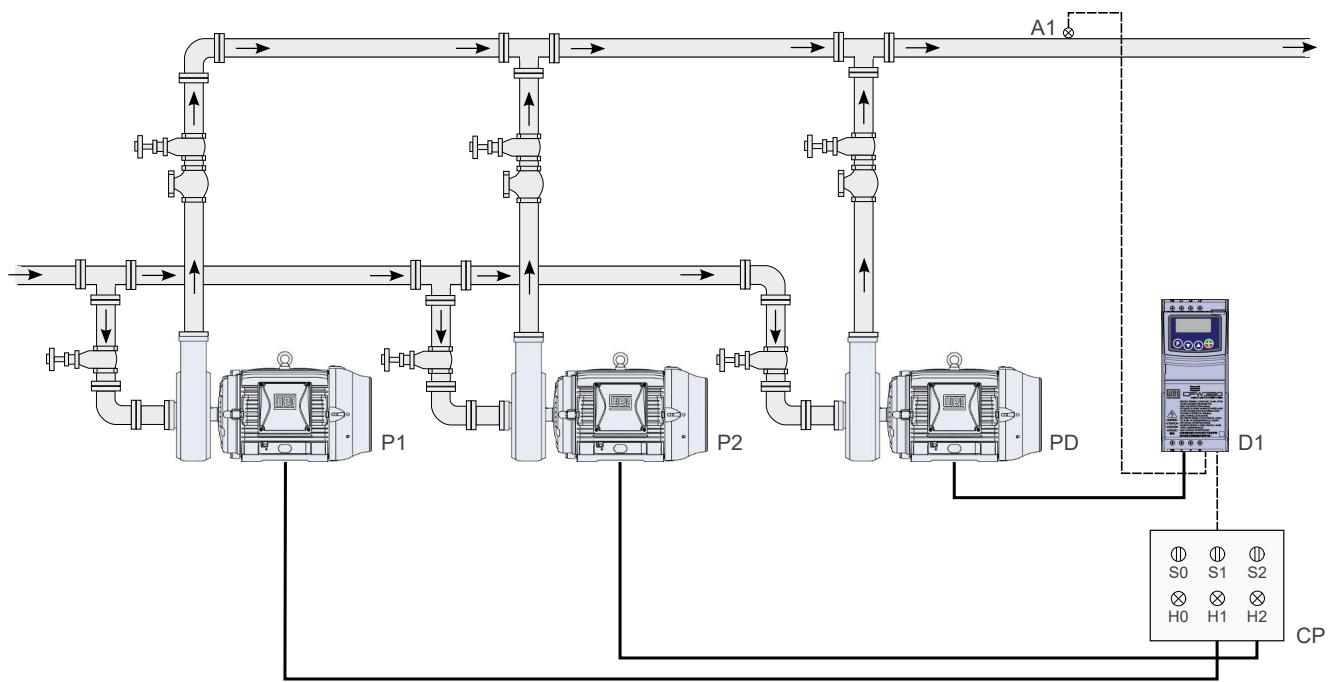
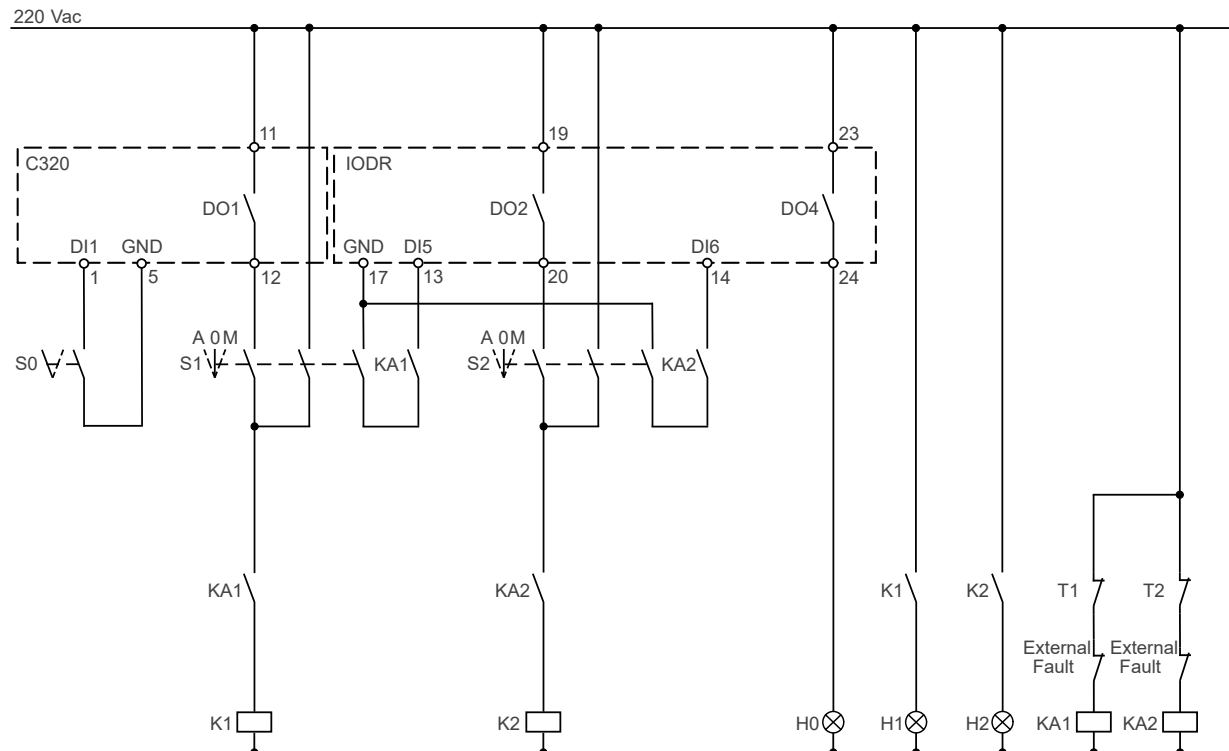

Figure 4.11: Pump Genius Multipump application with fixed control and control setpoint via HMI
Figure 4.14: Command connections of the Pump Genius Multipump application with fixed control and three pumps in parallel
The Figure 4.11 at page 4-12 presents a typical system with three pumps in parallel and control setpoint via HMI, basically composed of:
Pumps 1 and 2 can be driven by contactors (direct on line or star delta), static starters (softstarter), smart relays, etc. The H0, H1 and H2 signals are not necessary for the operation of the Pump Genius Multipump with fixed control, as they only serve to indicate the operating condition of the pumps in the control panel (CP). In Figure 4.11 at page 4-12, the H1 and H2 signals come from auxiliary contacts of contactors K1 and K2 that drive pumps 1 and 2 as shown in Figure 4.14 at page 4-15.
The Figure 4.14 at page 4-15 presents the command connection diagram for fixed control and three pumps in parallel.